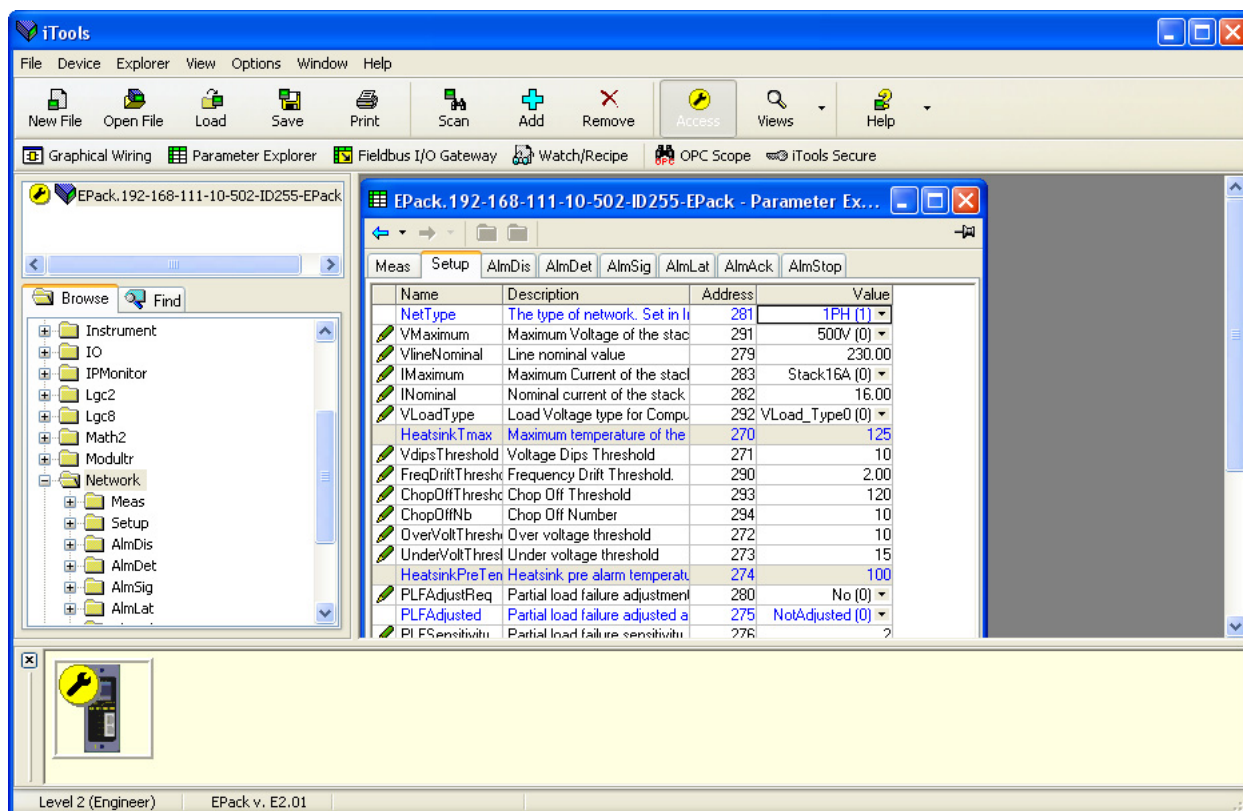

Figure 7.4a Parameter table example
In each case the function block parameters appear in the iTools window in tabular form, such as the example in figure 7.4a, below.
- Parameters in blue are non-editable (Read only). In the example above all the parameters are read only. Read/write parameters are in black and have a 'pencil' symbol in the 'read/write access' column at the left edge of the table. A number of such items are shown in figure 7.4a, above.
- Columns. The default explorer window (figure 7.4a) contains the columns 'Name', 'Description', 'Address' and 'Value'. As can be seen from figure 7.4b, above, the columns to be displayed can be selected, to a certain extent, using either the 'Explorer' menu or the context menu. 'Limits' have been enabled for the example above.